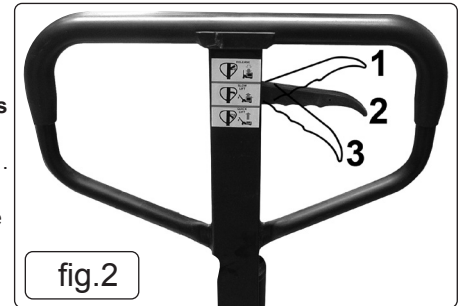

fig.2
- 4.1.5. Move the lever at the top of the handle (fig.2) into the lower position then pass the chain with adjusting bolt and nut through the hole in the centre of the handle pivot pin.